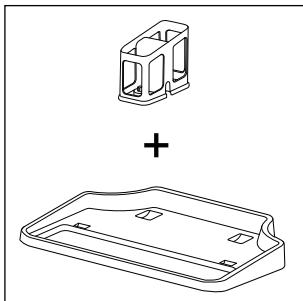
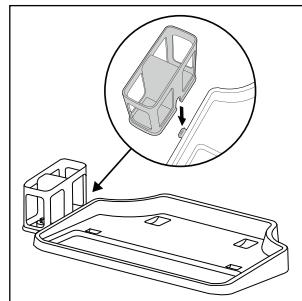

Fig. 4
Fig. 5
- ♦ The parking and cleaning station consists of a storage tray ④ and a rotary brush holder ⑤ (see fig. 4). To assemble the parking and cleaning station, slide the rotary brush holder ⑤ sideways into the opening on the storage tray ④. Slide the rotary brush holder ⑤ downwards into the opening until it sits firmly in place on the side of the storage tray ④ (see fig. 5).